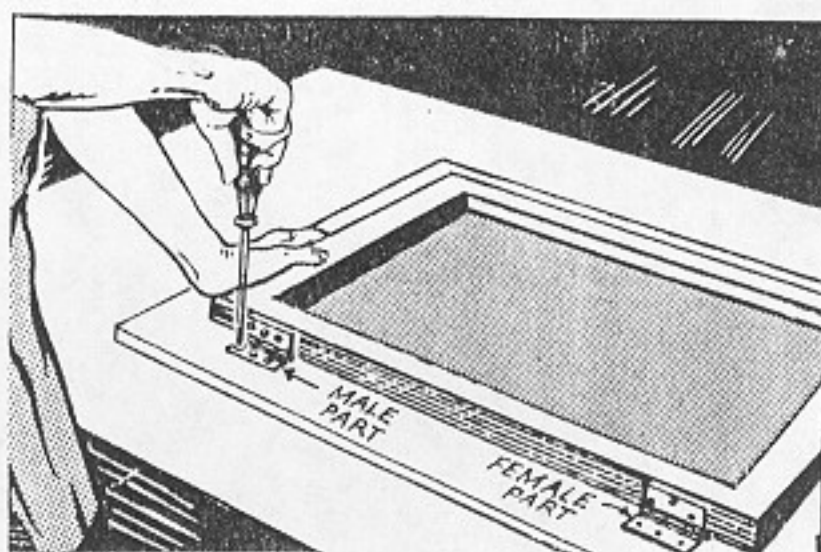

Fig. 39. Hinge Frame to Base
1. The frame may be hinged directly to the base as in Fig. 39. Note that one set of hinges has the male part attached to the base while the other set has the female part in that position. This arrangement gives more stability to the hinging. Be sure to use loose-pin butt hinges so that the frame can be removed without removing the oval head screws.